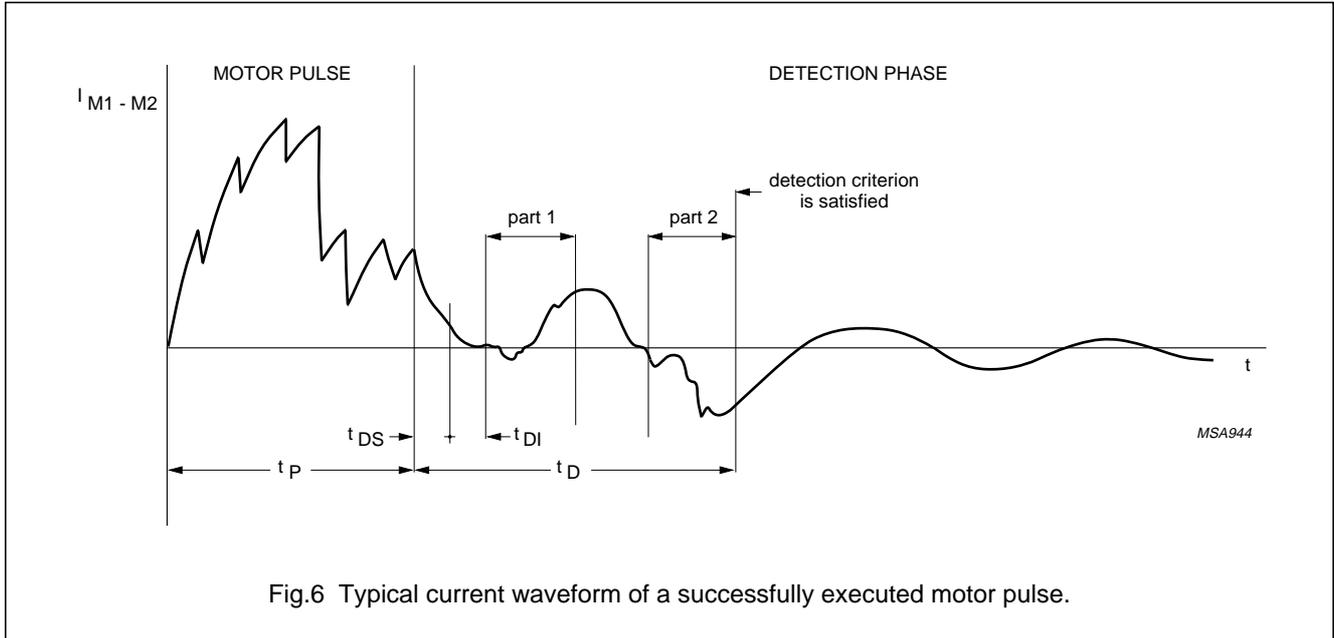

Fig.6 Typical current waveform of a successfully executed motor pulse.
The PCA146x uses current detection in two defined parts of the detection phase to determine if the motor has moved (refer to Figs 6 and 7). The detection criteria are:
- Minimum value of  $N = 2$ ; where  $N$  = number of measured positive current polarities since the first negative current polarity after part 1 was detected (see Fig.6).